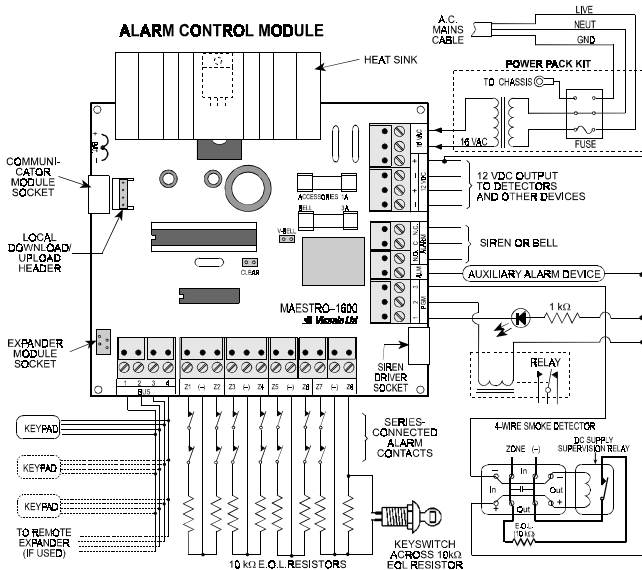

Figure 3.6 Control Module Wiring
## 3.5 Wiring the Alarm Control Module (Fig. 3.6)
PGM 1	This is a programmable open-collector auxiliary output (100 mA max.). You may program this output to pull to ground upon communication failure. Alternatively, you may program it to pull to ground for as long as the system is armed (for controlling the alarm memory function in certain detectors), or for lighting an remotely located LED to indicate that the system is armed. An LED with 1kΩ resistor in series may be wired between PGM1 and any one of the 12 V+ terminals, as shown in Fig. 3.6. A relay can also be wired as shown with PGM2.
case, a courtesy light control relay or a warning buzzer may be wired between PGM2 and any one of the 12 V+ terminals (Fig. 3.6). In the second case, a READY LED with a 1kΩ resistor in series may be wired between PGM2 and any one of the 12 V+ terminals.
PGM 3	This is a programmable open-collector auxiliary output (100 mA max.). You may program this output to reset smoke detectors after the first detection of smoke, or to pull to ground upon any alarm and return to the open circuit state only by disarming or arming the alarm system (strobe output). In the first case, PGM3 must be wired as the "ground return" for the smoke detectors used in the system, as shown in Figure 3-6. In the second case, a strobe light control relay may be wired between PGM3 and any one of the 12 V+ terminals.
- Use a jumper bar to short together the two CLEAR pins on the control module (Fig. 3.6 for location of the pins).